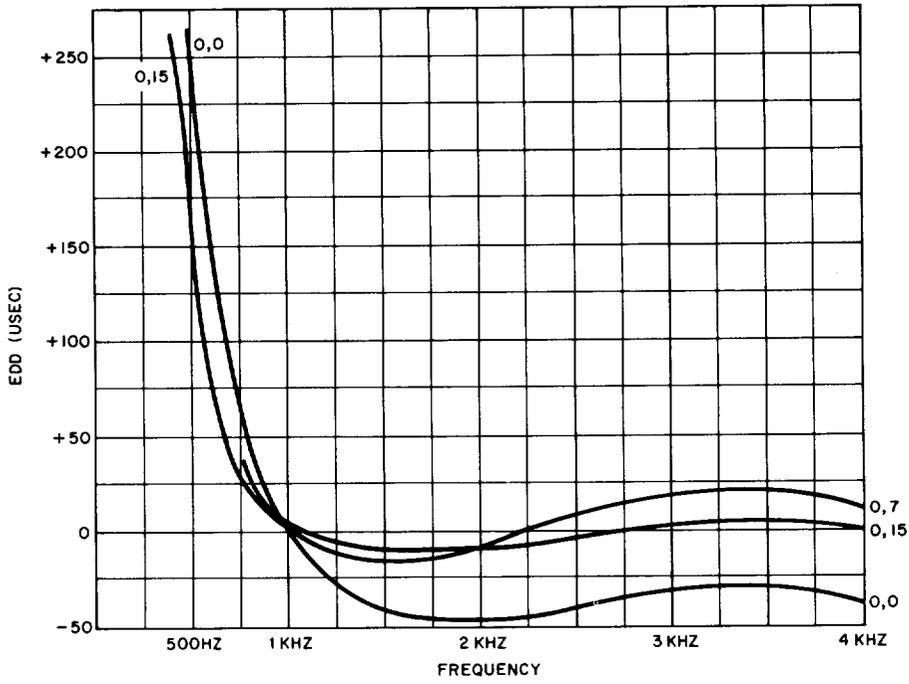
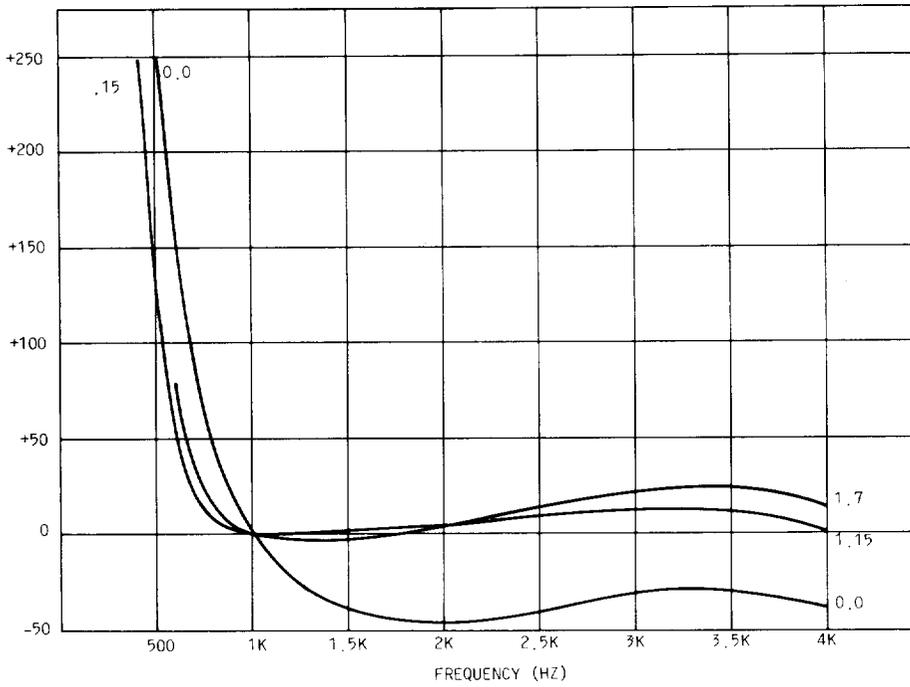

Fig. 10—Envelope Delay Distortion, C = 0
Fig. 11—Envelope Delay Distortion, C = 1
4.03 Figures 10 and 11 give the Envelope Delay Distortion (EDD). Figure 10 shows the EDD for the various equalizer settings with the C switch set to 0. Figure 11 includes the same equalizer settings with the C switch operated.